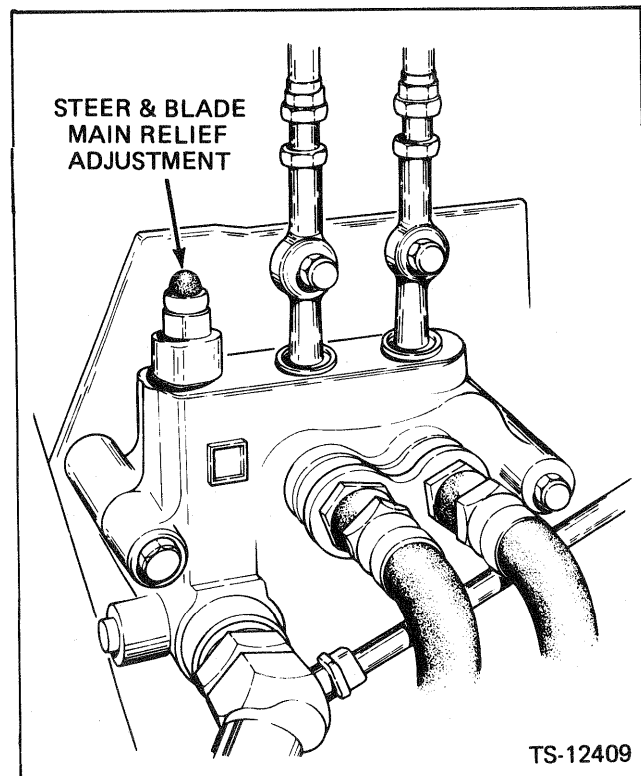

Fig. 11-3 Adjust Pressure — Main Relief Valve
6. To adjust the main relief, remove the acorn nut, loosen the jam nut and adjust the set screw located on the top of the main control valve assembly until 1,600 p.s.i. registers on the gauge per step number 5. Fig. 11-3